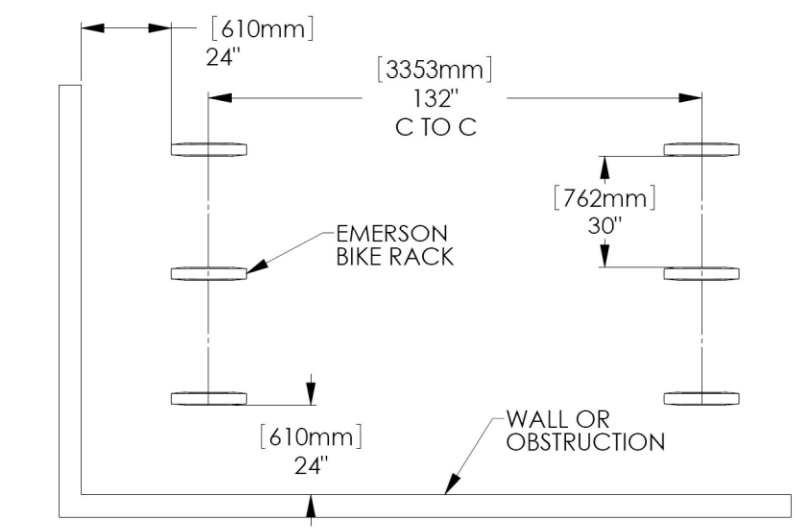

Fig. 1 - Recommended spacing, according to Association of Pedestrian and Bicycle Professionals (APBP)
2. Mark hole locations. See Fig. 1 for recommended spacing.